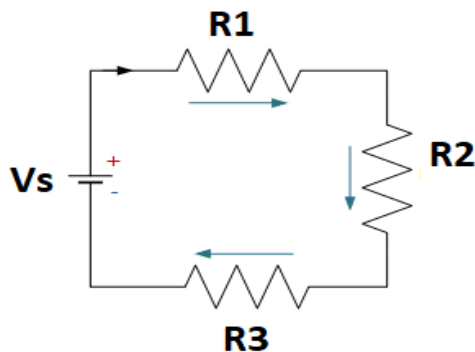

Fig. 1 Circuit for KVL
Applying KVL for figure 1
1. **Set up the circuit** on the breadboard as shown in the Fig. 1 using the resistors, power supply, and connecting wires.